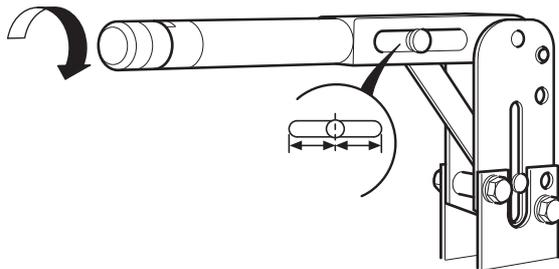

Fig 10.
- 2 Disengage the park brake lever, (lever horizontal). Turn handle grip to bring pin central in its slot. → Fig 10. (□ G-12).